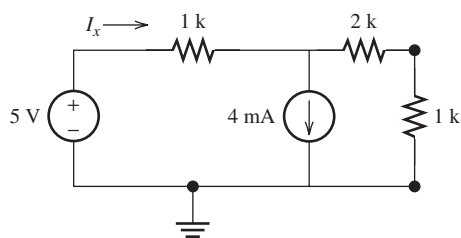

FIGURE P3.64 Circuit for Problem 3.64.
- 3.64** (A) Find I_x in Figure P3.64 using the principle of superposition.
- 3.65** (A) Use the principle of superposition to find the power dissipated in the 2-kΩ resistor in Figure P3.64.